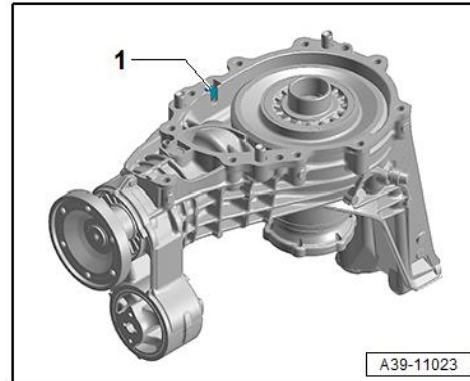

Figure 22. Magnet location.
15. Remove the magnet (Figure 22, position 1), clean it, and re-insert.